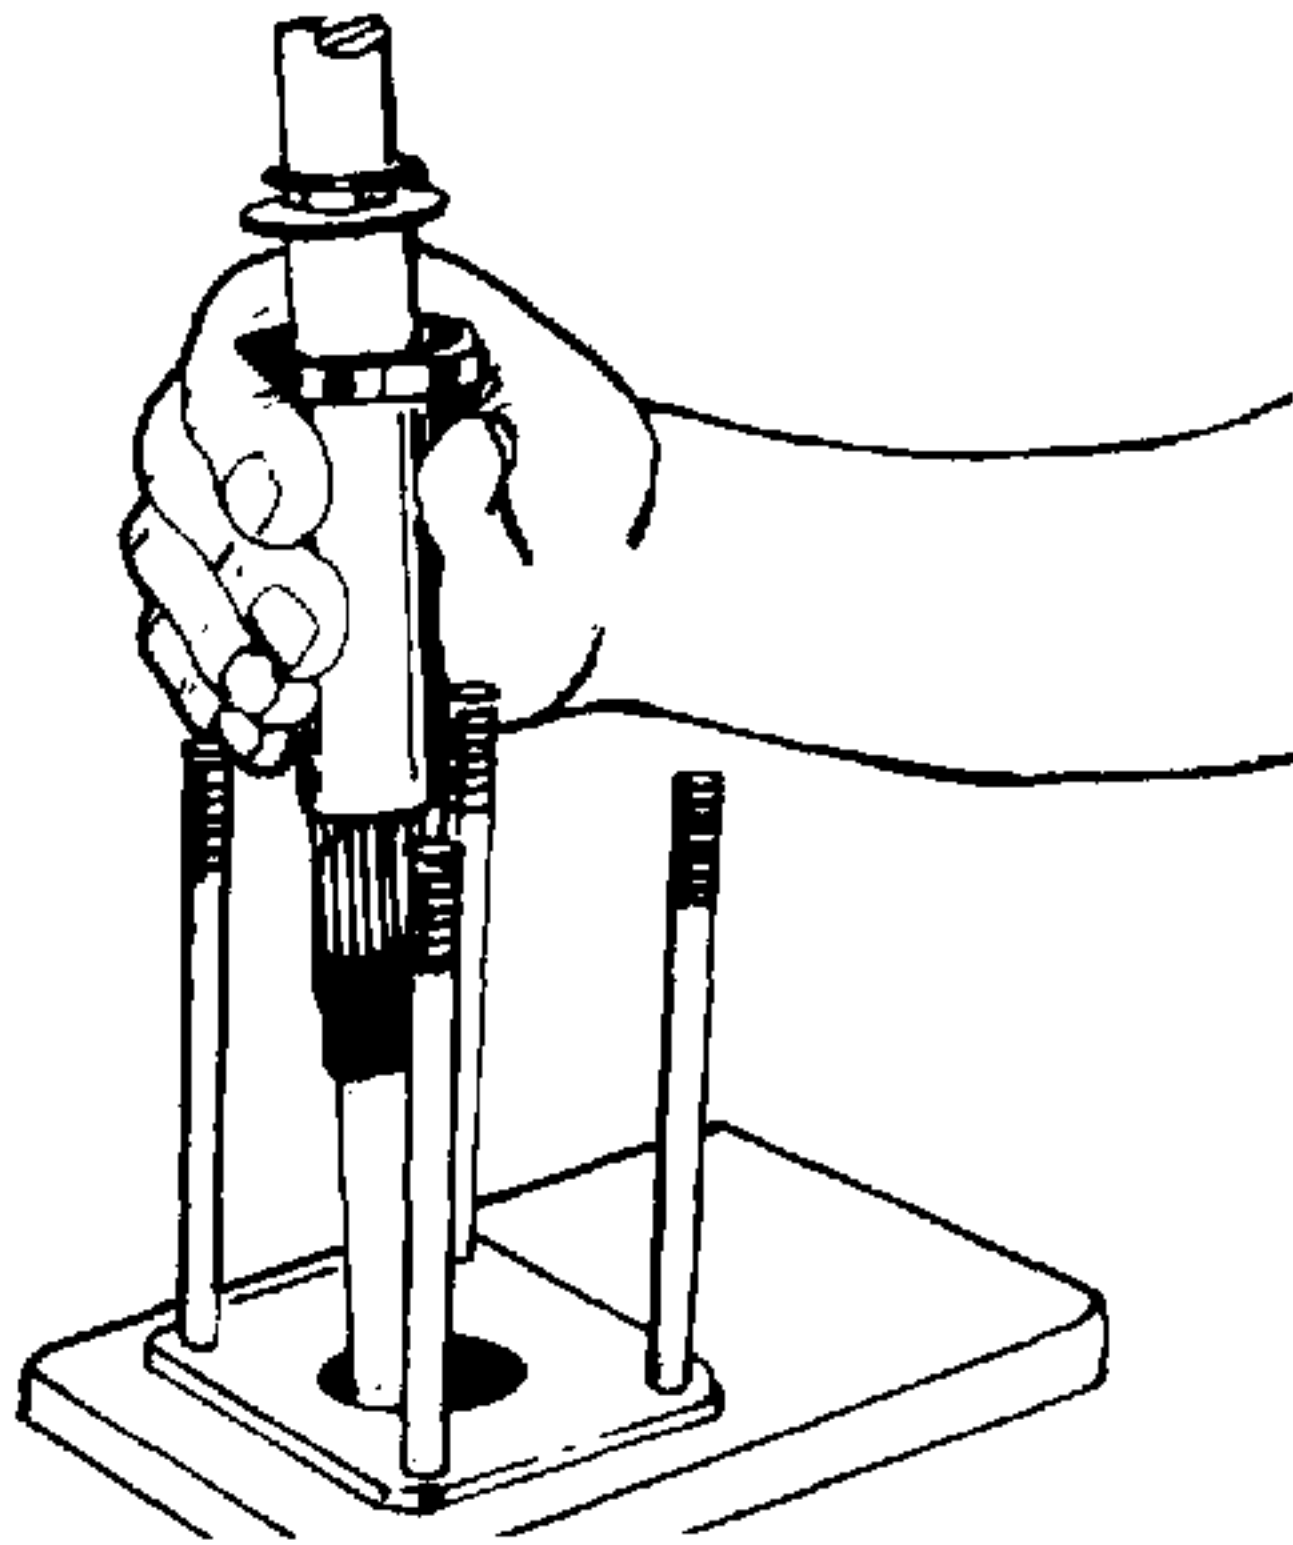

Figure 4-50. Installing Input Shaft Assembly.
- Slide input shaft assembly (31, Figure 4-1) into upper cover end of upper cover and tube assembly (35) and through bearing (36) until the retaining ring (32) bottoms against washer (33) which bottoms against recessed face of retaining plate (34) and the retaining plate seats against the end of the tube. See Figure 4-50.